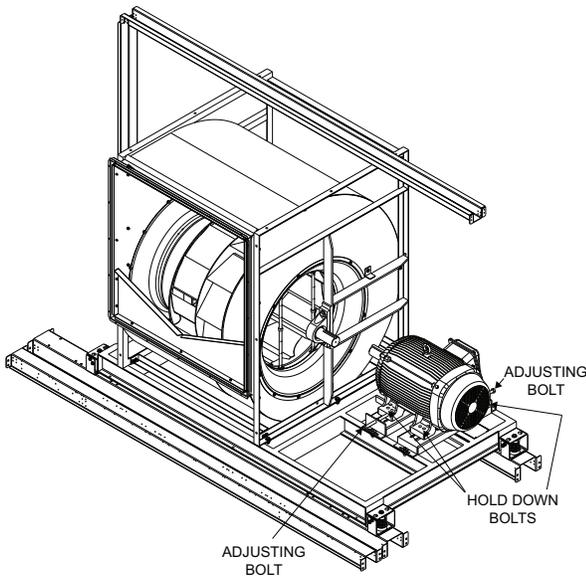

Fig. 50 — Supply and Power Exhaust Fan Motor Plate Adjustment
1. Loosen holddown bolts. (See Fig. 50.)